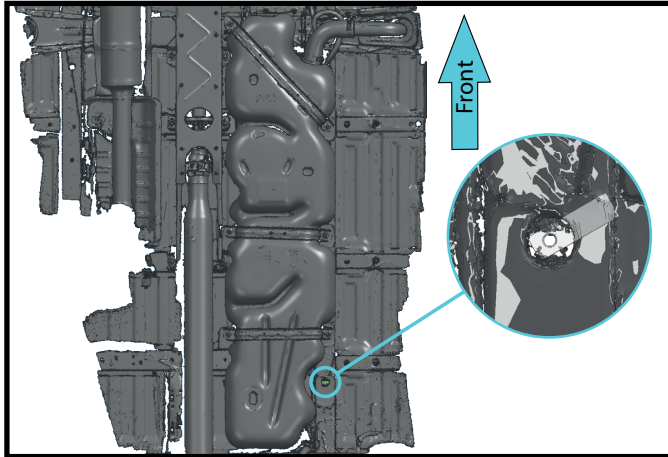

Fig. 1
1. Install insert nut M8 (item C) on the vehicle as shown in fig.1.